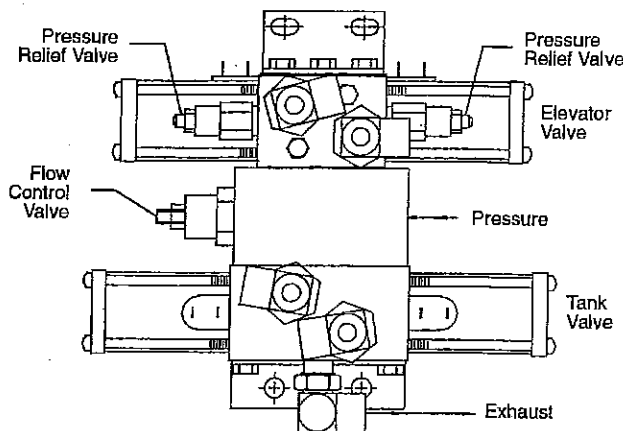

FIGURE 62 - VALVE LOCATION
Install two (2) hose assemblies (96" and 120") from the valve assembly on the tank to the out ports on row finder and flow control valve as shown (see Figure 62).